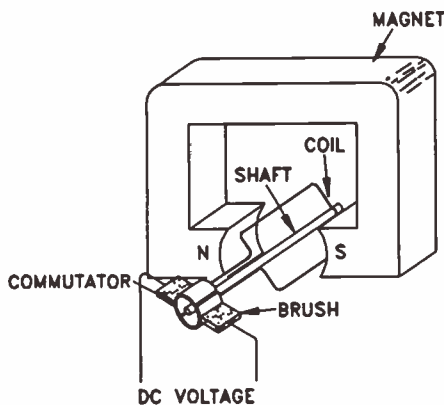
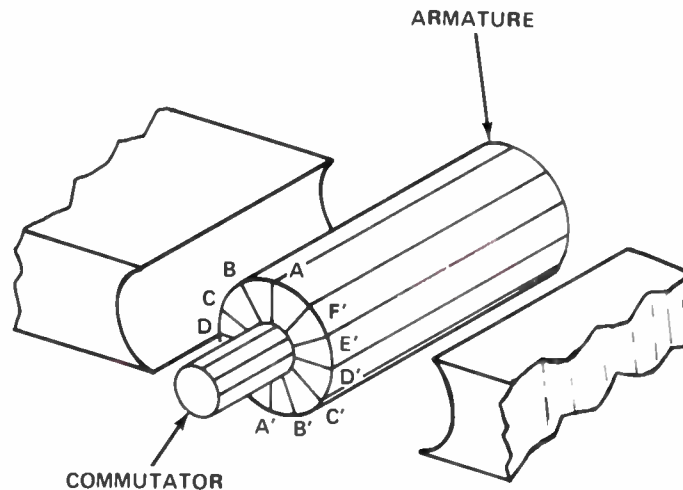
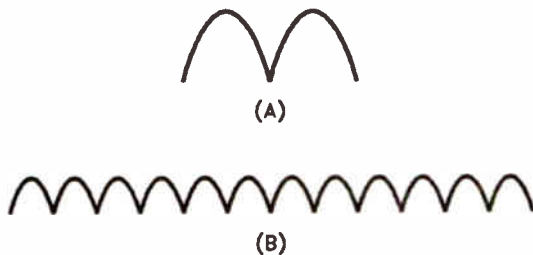

Figure 22. A simple dc generator.
Figure 25. The armature of a dc generator with six series-connected coils.
Figure 26. (A) Voltage from a single-turn generator.
However, we can get dc output if we use two slip-rings and a commutator, as shown in Fig.22. A commutator resembles a slip-ring, but it is split in half and the two halves are insulated from each other. The brushes are placed so that each brush contacts one section of the commutator as the coil makes the first half-revolution, and
A more efficient generator design is shown in Fig.25. Here there are a number of coils wound on an iron form called an *armature*. The coils are in different positions around the armature. In the position shown, coil A-A' does not cut any lines of force and has no voltage induced in it. Coil B-B' is in a position to cut a few lines of force, and has some voltage induced in it. Coil C-C' is
further into the magnetic field, cutting still more lines of force and generating a proportional amount of voltage. Coil D-D' is cutting directly across the lines of force and the maximum voltage will be induced in it. These coils are connected in series and brought out to the connections on the commutator. Two brushes are used on the commutator. The output voltage from this type of machine will be nearly constant because there will always be one coil in or near each position shown in Fig.25. The voltage produced by the generator will be the voltage of all the coils in series.
If we designed the 6-coil generator shown in Fig.25 so that its maximum output voltage was 100 V, during the first half-revolution the voltage would rise from 95 V to 100 V, then fall back to 95 V six times. The same thing would happen during the next half-cycle. The advantage is that we can reduce the voltage variation with a 6-coil machine. The single-coil machine, on the other hand, would vary between 0 and 100 V every half-turn. Compare the output from a 100 V single-coil dc generator to the output from a 100 V 6-coil dc generator shown in Fig.26.
(B) Voltage from a generator with coils like in Figure 25.
- 25 A simple dc generator, like the one shown in Fig.22, would produce a pulsating dc (shown in the waveform in Fig.24). A pulsating dc of this type is normally not desirable, and the excessive pulsating can be eliminated by means of an armature, such as that shown in Fig.25. The armature holds several coils connected in series to produce a smoother dc output.